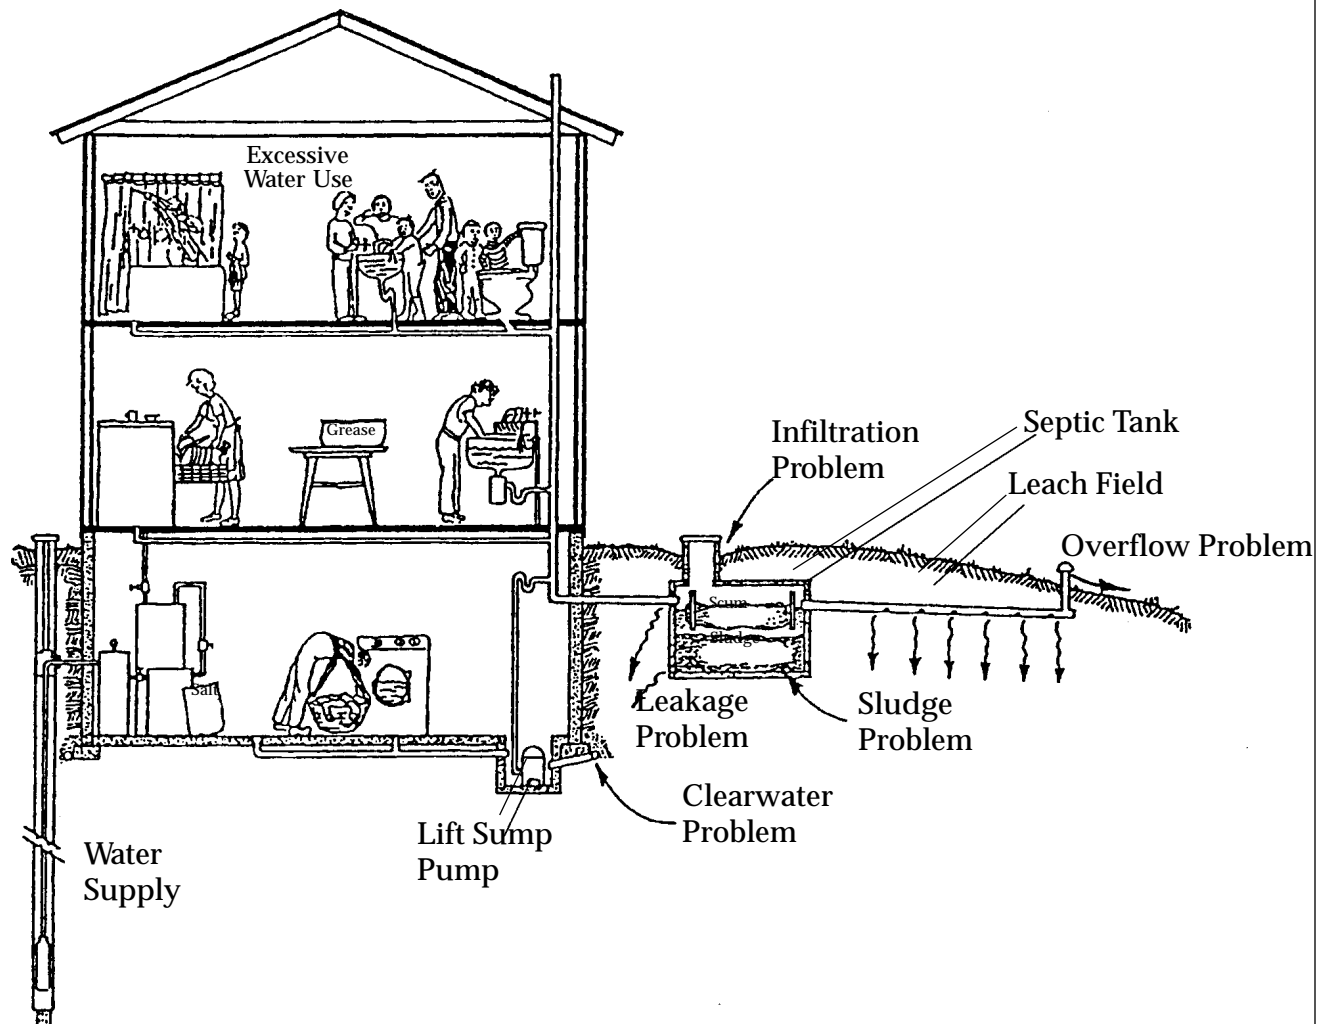

Figure 1: Typical household wastewater treatment system with problems.
Figure 1 shows a typical household system for wastewater generation, collection, and treatment. The “leakage,” “overflow,” “infiltration,” and “clearwater” components represent possible problems with the system. Unfortunately, these problems are often difficult to recognize since they are hidden underground. Overflow from systems may be noticed as wet spots, odors, and some changes in vegetative cover near the soil
- Eliminate nonessential uses, such as flushing toilets to dispose of tissues or other wastes that should be handled as solid waste. Turn off water between uses, fix plumbing fixture leaks, and try to eliminate sources of clearwater and infiltration into the system (see *Figure 1*). For example, divert roof drains away from the soil absorption field.